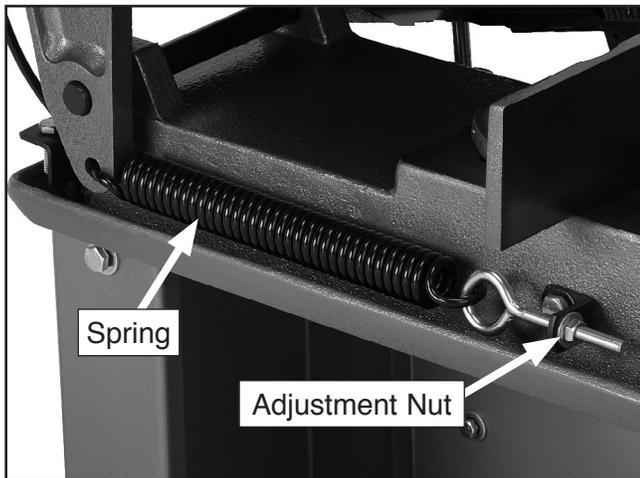

Figure 22. Spring tension adjustment.
2. Using a 14mm wrench, adjust the feed pressure tension spring. Tighten enough to remove play but not enough to apply tension to the spring (see **Figure 22**).